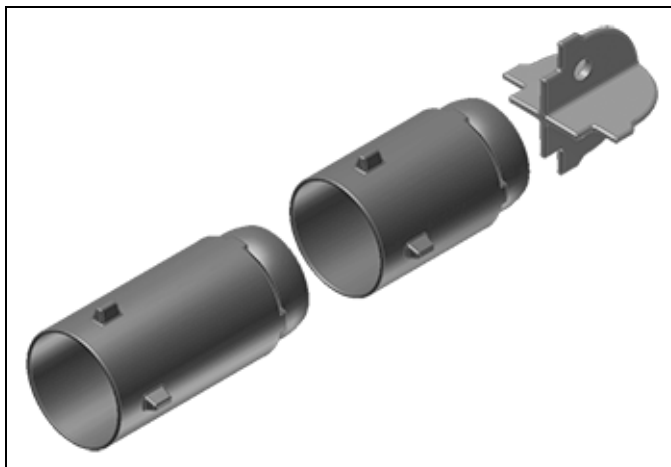

Figure 3.9
4. Install inner ceramic sections. Refer to Table 3.1 for the appropriate quantities of short (185 mm) and long (235 mm) inner tube sections. Starting with the end section, add the inner tube sections one into the other and push them to the end of the outer tube. Make sure the inner tube sections are fully inserted in the outer tube. If they are not fully inserted the burner will not operate properly and may become damaged. See Figure 3.9.
1. With the outer tube horizontally oriented, install inner ceramic sections. Refer to Table 3.1 for the appropriate quantities of short (185 mm) and long (235 mm) inner tube sections. Starting with the end section, add the inner tube sections one into the other and push them to the end of the outer tube. Make sure the inner tube sections are bottomed in the outer tube. If they are not fully inserted the burner will not operate properly and may become damaged. See Figure 3.9.